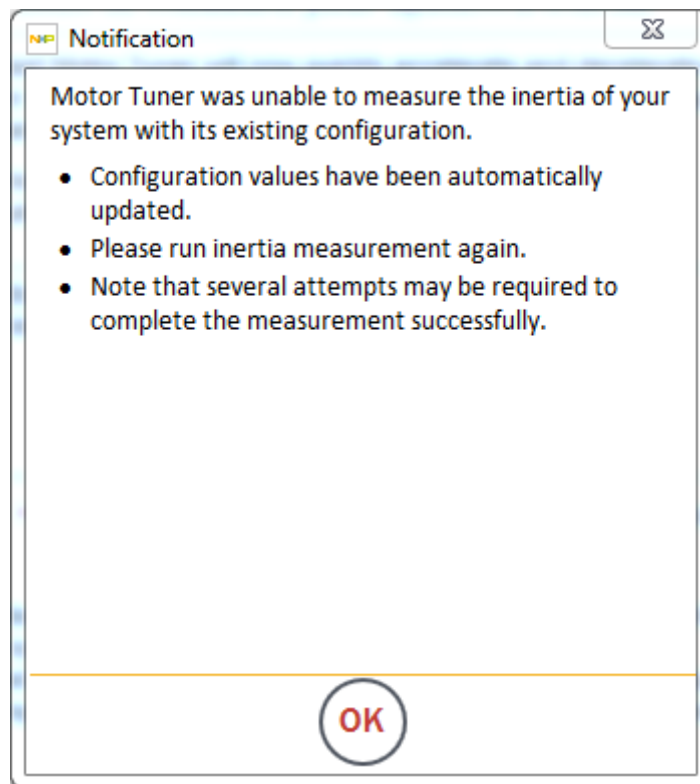

Figure 204. Incomplete inertia measurement
- System Inertia Measurement from Motor Tuner attempts to identify your system inertia with a default configuration, then adjusts this configuration in the event of failure to complete (Figure 204). KMS notifies and requires the user to explicitly retry after each incomplete